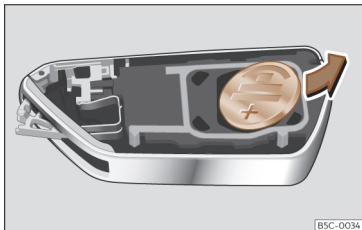

Fig. 79 Vehicle key: removing the battery.
- Extract the battery from the compartment using a suitable thin object >>> **Fig. 79**.
- Insert the new battery and press it into the battery compartment >>> ①.